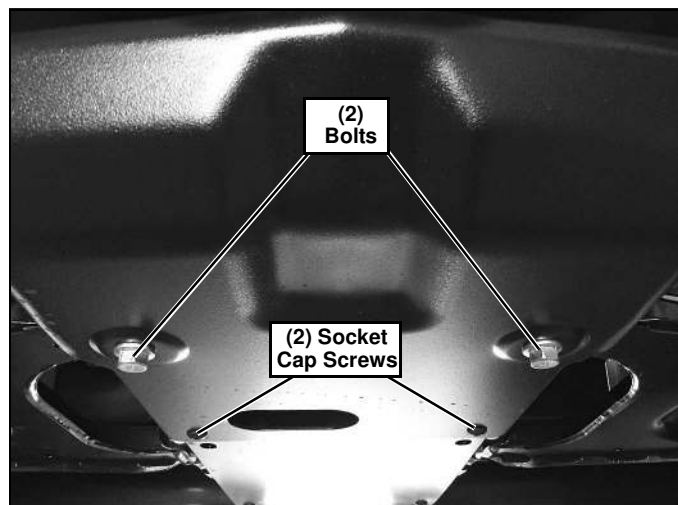

Figure 1
1. Remove two front bolts, and two rear socket cap screws from bottom skid plate. (See Figure 1.)